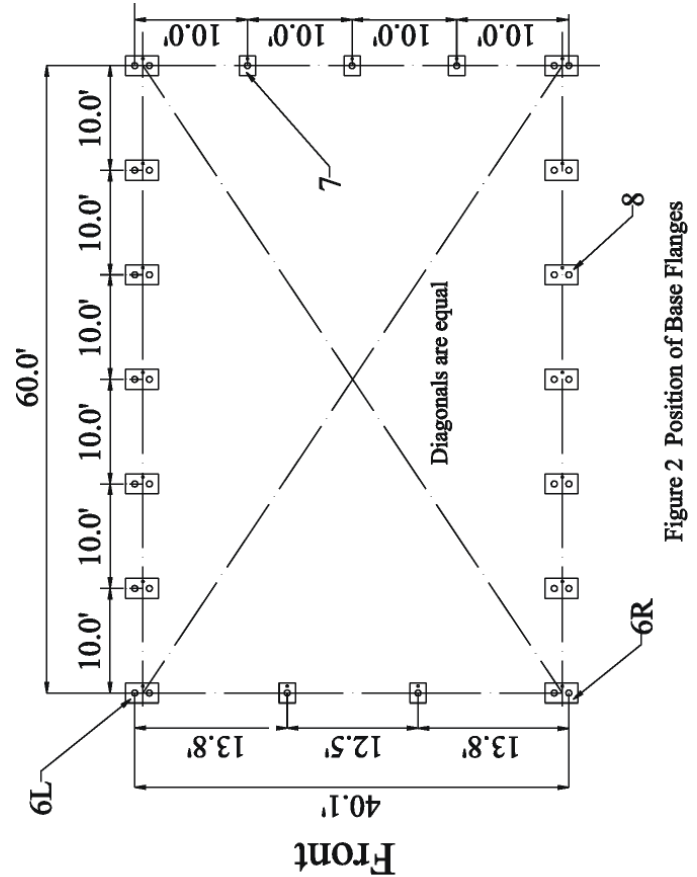

Figure 2 Position of Base Flanges
In order to assemble arches into a frame assembly, the Base Flanges (5L, 5R, 6, & 7) must be secured to the mounting surface. Begin Refer to figure 2 (last page of manual) for an exact layout of all base flanges.
Begin by determining exact location of the four (4) corners of the building. Mark front edge and side-to-side width of assembly on ground. Drive alignment stakes into the ground outside of the markings, and draw alignment strings along both ends and sides of the building to the dimensions shown in Figure 2. The outline of the strings will represent the final location of the base flanges. The initial location of each Corner Base Flanges (5R & 5L) is critical to the alignment and fit of the frame components and cover. Locate the Left Corner Base Flange (5L) and Right Corner Base Flange (5R) for the front corners of the building. Secure the base flanges with either or both the Auger style anchor (20) or the earth anchor (21). Measurements shown in Figure 2 are to the center of the upright sockets on each Base Flange.
Layout and secure all Base Plates as shown in Figure 2.